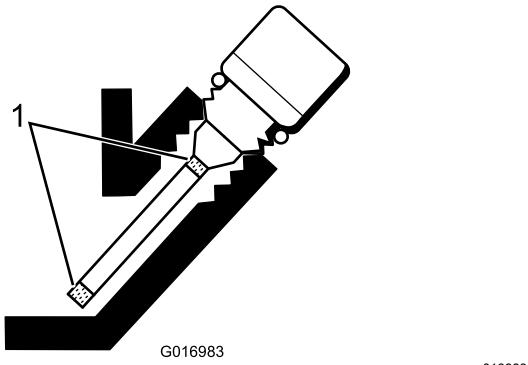

Figure 30
4. If the level is low, add only enough oil to raise the level until it is between the hatch marks on the gauge (Figure 30).